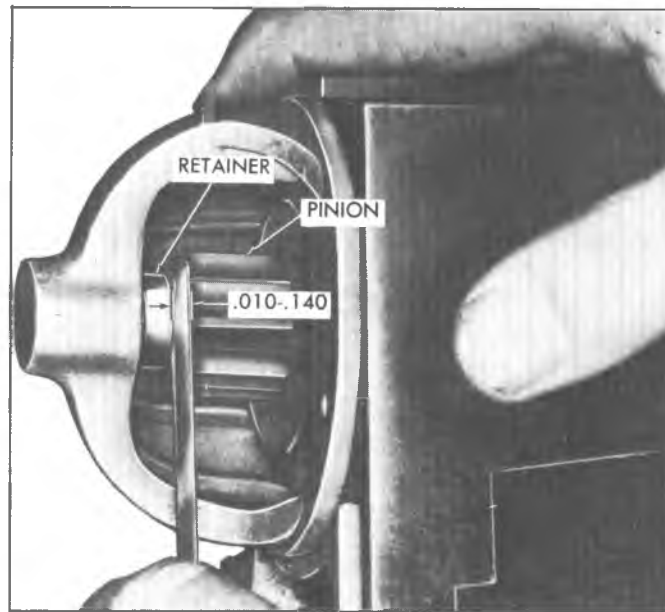

Fig. 12S--Checking Pinion Clearance
4. Measure the distance between the pinion and pinion stop (fig. 12S). If clearance is not within specified limits (.010-.140) it may indicate excessive wear of solenoid linkage shift lever yoke buttons or improper assembly of the shift lever mechanism. Worn or defective parts should be replaced.